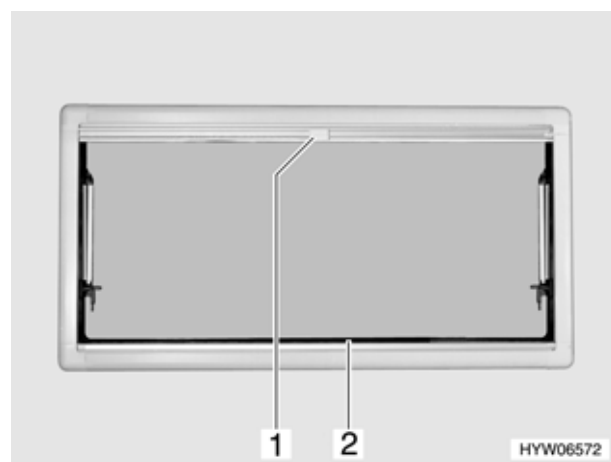

Fig. 49 Hinged window (variant 2)
- Grip the Roman shade (Fig. 49,2) using the holding bar, pull it upwards and then release it at the height you require. The Roman shade will stay at this height.
- Pull the insect screen (Fig. 49,1) downwards using the handle until it pushes against the Roman shade (Fig. 49,2).
- Press the handle attached to the insect screen (Fig. 49,1).